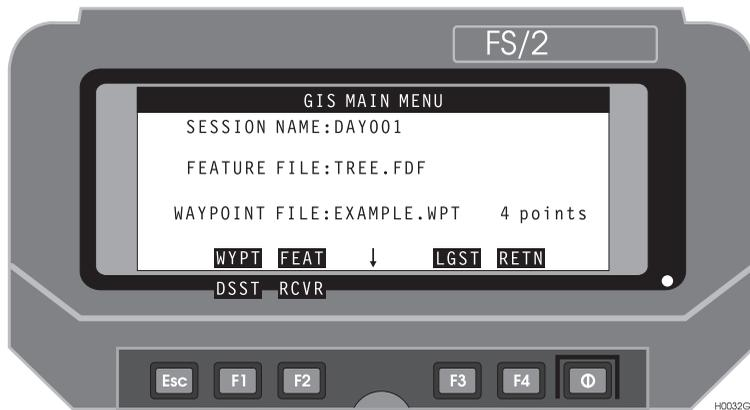

Figure 3.39: GIS Main Menu
- Press F4 (OK), then F4 (RETN) to return to the Receiver Setup screen. In the Receiver Setup screen, press F4 (OK) to set the receivers. The message **Setting receiver** appears momentarily, then the GIS main menu, Figure 3.39.